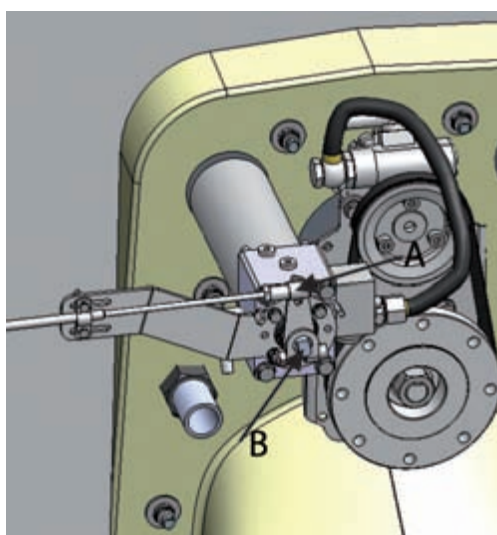

Figure 71. Removing the control cable
1. Detach the control cable from the end of the cylinder operating lever (figure 71, point A).
2. Loosen the operating lever screw (figure 71, point B) but do not pull the lever off the shaft yet.
7. Attach the control cable to the screw at the end of the operating lever (figure 71, point A).